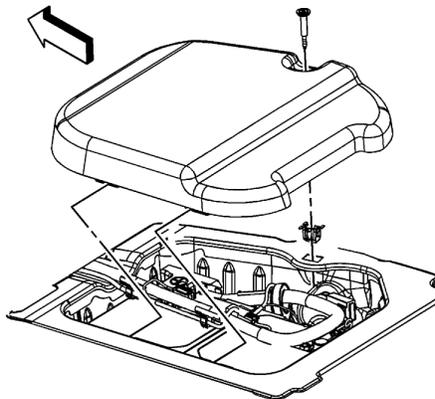

Fig. 1 Battery cover removal
7. From inside vehicle, remove battery cover screw and cover, **Fig. 1**.